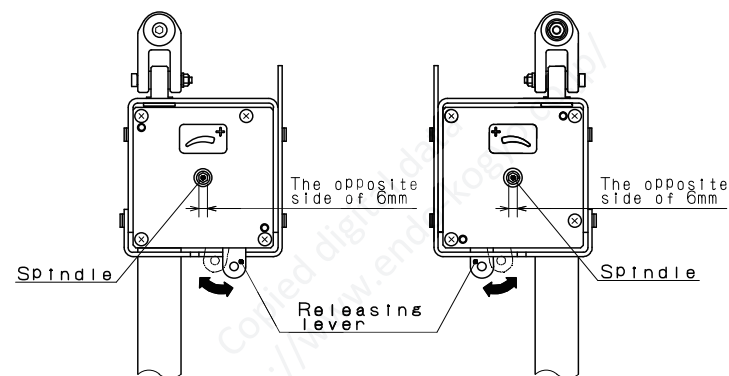

Fig.2
- Increase the spring tension by turning the spindle to the + side with a hexagon socket screw key. (see Fig.2)